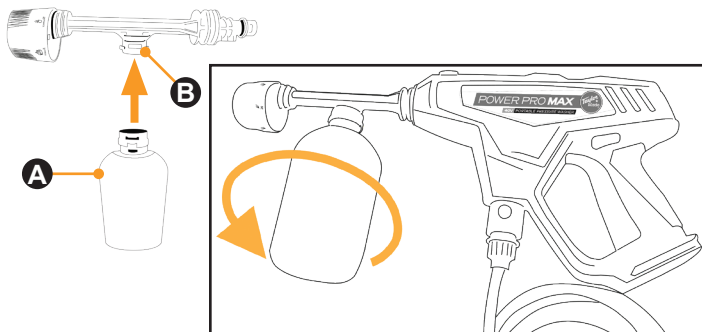

Fig.10
2. When viewing power pro max from the orientation shown in figure 10, twist bottle to the left to secure it in place.
3. When viewing power pro max from the orientation shown in figure 10, twist the additive bottle to the right to disengage the bottle from the nozzle.